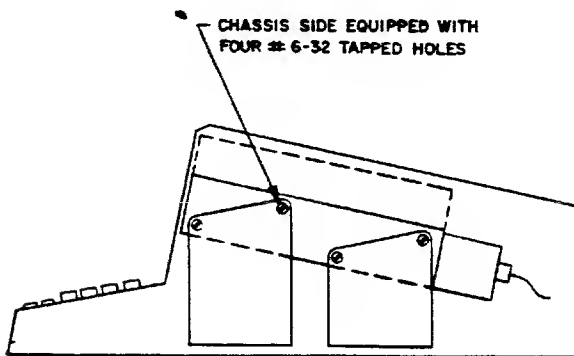

Figure 2-5. Side Mounting
The tape drive can be mounted by its sides as illustrated in figure 2-5. Four tapped holes in either side accept four 6-32 mounting screws. The panel cutout in figure 2-4B can be used with this application. A typical installation procedure follows:
- Use four 6-32 screws to fasten the tape drive to a side panel or bracket (fig. 2-5).